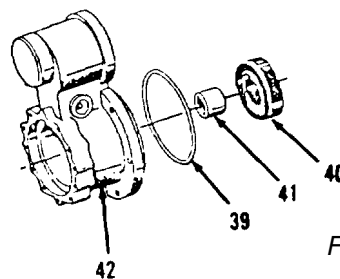

Figure 4-78.
30. Remove and discard preformed packing (39) and seal (40) from housing (42, Figure 4-78).
31. Using suitable driver and press, remove and discard bearing (41) from housing (42).